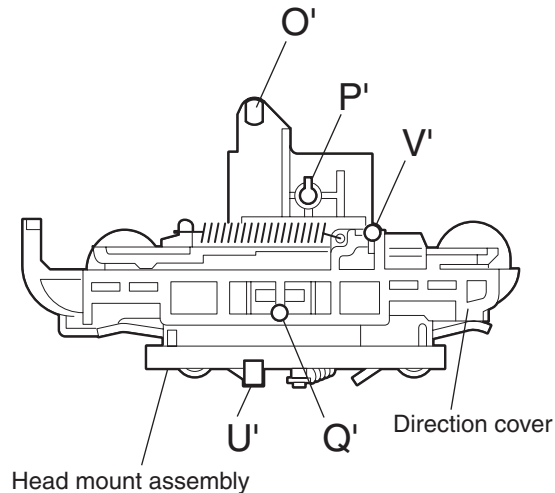

Fig.11
(See Fig.11~13)
- 2) Fit the bosses **O'**,**P'**,**Q'**,**U'** and **V'** on the head mount assembly to the holes **P** and **V**, the slots **O**,**U** and **Q** of the mecha sub assembly(See Fig.11 to 13).